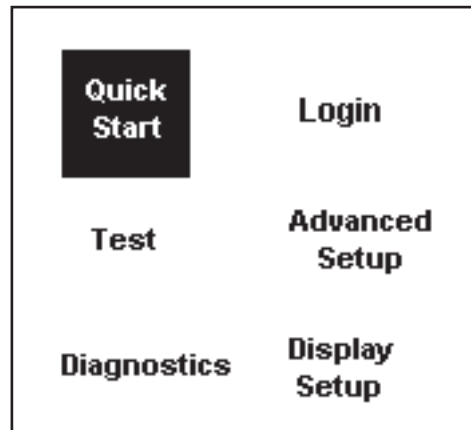

Figure 17. - Info/ Install Display
- From the Home display shown in Figure 16, press the “I” button (“Info/ Install”). The display will change to show the six sub-menus available. See Figure 17.
- From the Info/ Install screen (**Figure 17**), select Login.